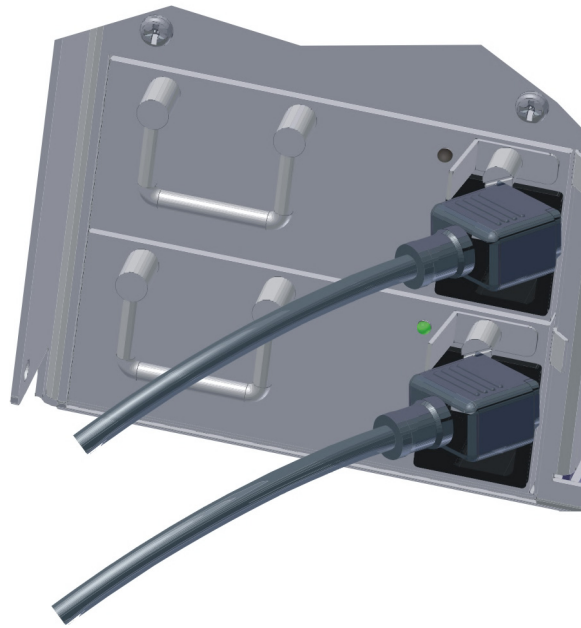

Figure 4-21 DSL100 Failed Power Supply: Top Unit in Figure
1. Identify the failed unit in the rear panel by its nonilluminated LED, as shown in the example in Figure 4-21.